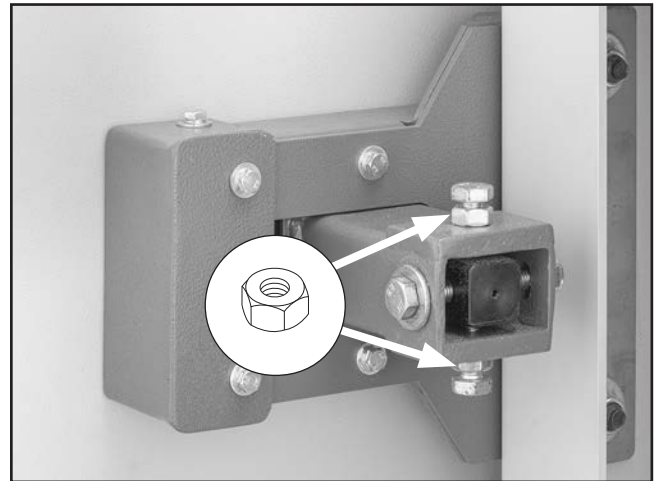

Figure 78. Location of hex nuts.
4. Loosen hex nuts on wheel adjustment hub (see **Figure 78**).